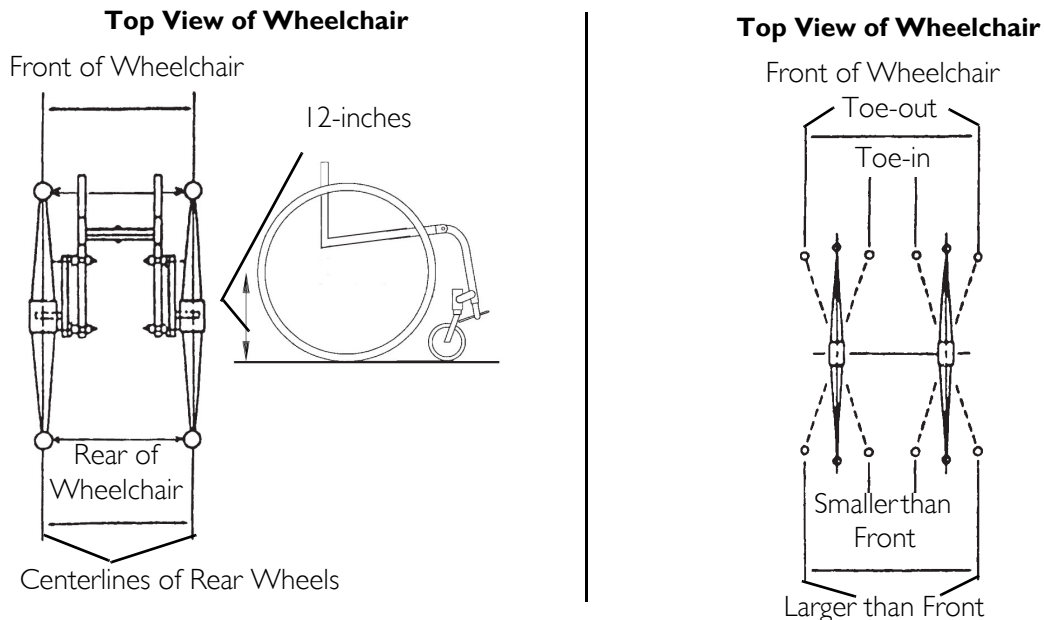

FIGURE 8.13 Adjusting Wheelbase Length (Adjusting Center of Gravity) - Measuring Centerlines of Rear Wheels
NOTE: For this procedure, refer to FIGURE 8.13.
2. Measure the distance between the centerlines at the rear and front of the rear wheels at approximately 12 inches from the ground/floor (FIGURE 8.13).
- If the back centerline measurement of the rear wheels is **SMALLER** than the front centerline measurement of the rear wheels, a **TOE-OUT** condition exists (FIGURE 8.13).
- If the back centerline measurement of the rear wheels is **LARGER** than the front centerline measurement of the rear wheels, a **TOE-IN** condition exists (FIGURE 8.13).